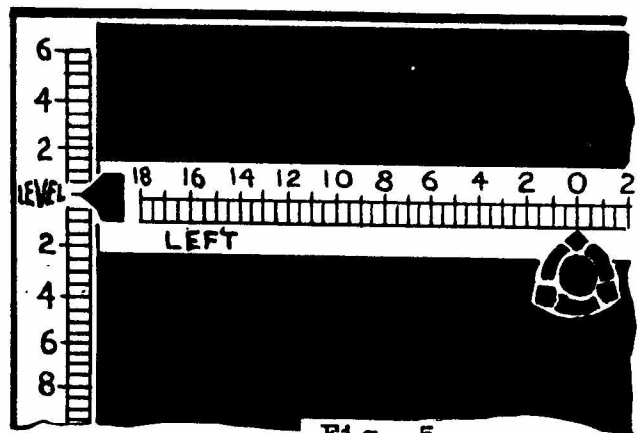
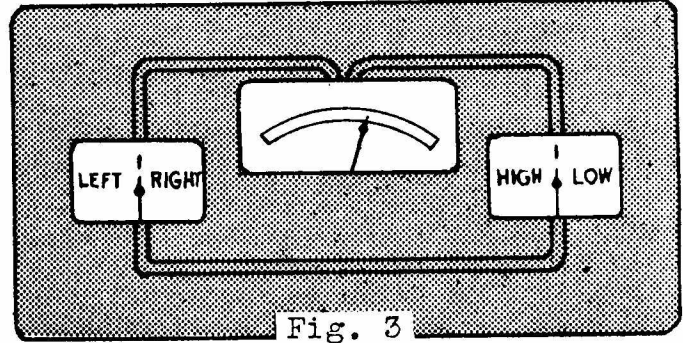
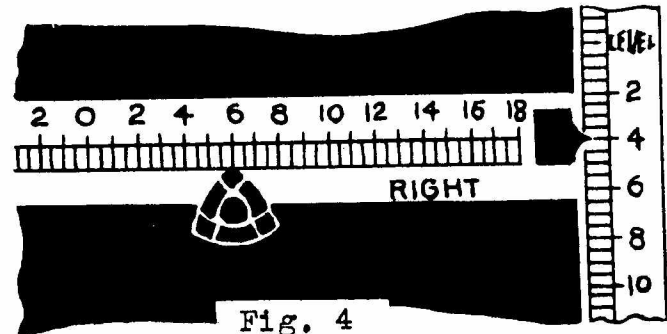

Fig. 5
Fig. 3
Fig. 4
3. Assemble the Rayoscope as shown in Fig. 4, and mount it on the tracks. Grasp the pointer knob of the rear aiming scale and set the vertical aim scale so it reads on the "LEVEL" mark, Fig. 5.
5. With the headlights on the high or driving beam, note the position of the meter hands on both aiming meters. One meter shows "high-low" and the other "left-right". Next move the pointer knob on the back scale until the hands on both aiming meters are on the center mark, Fig. 3. For example, if the aiming meters read "right" and "low" simply move the knob to the right and downwards. Then read the back scale. This shows the horizontal and vertical aim of the headlight in inches at 25 feet. The knob indicates the side aim while the two pointers on the sides indicate the high-low aim of the light beam. For instance, in Fig. 4, the light would be aimed 4 inches low in 25 feet and 6 inches to the right.